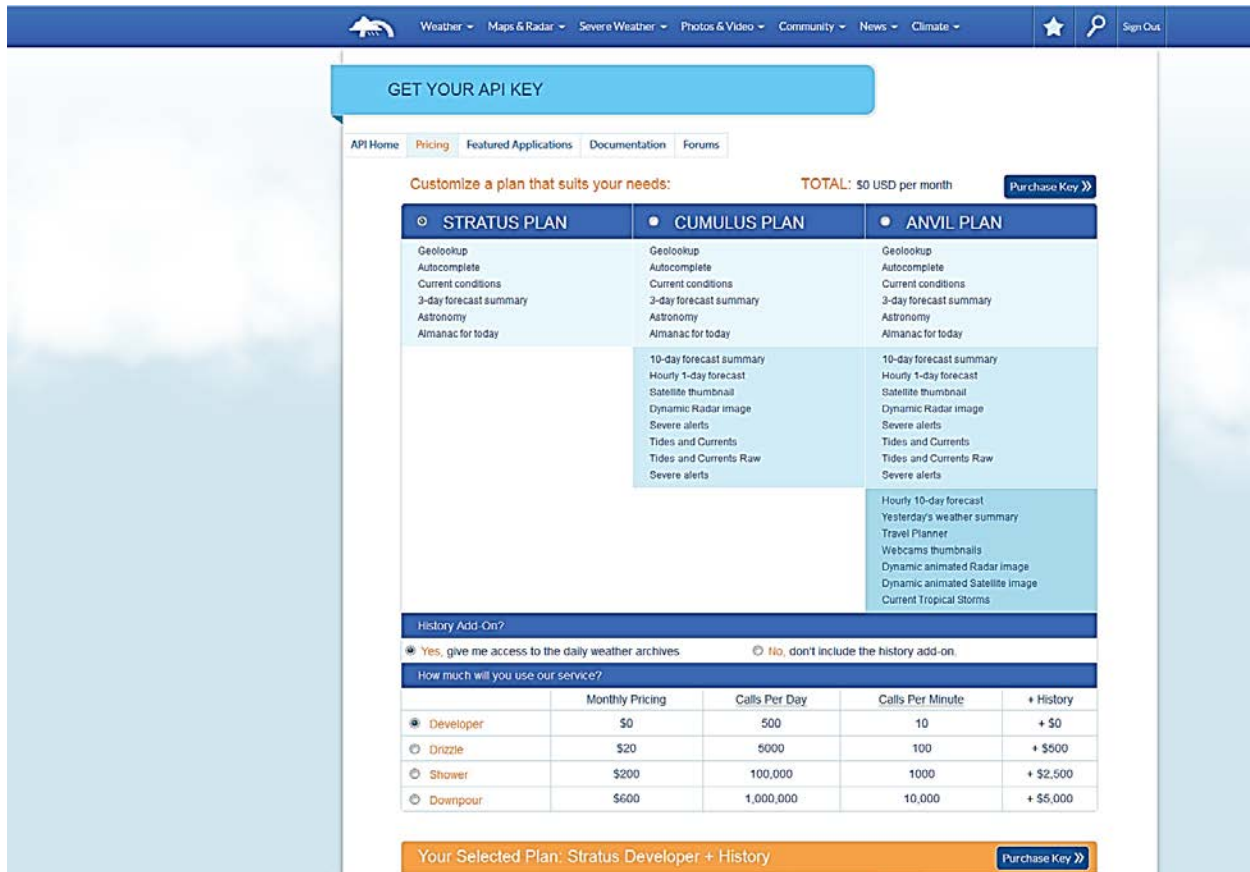

Figure 21: Creating a WeatherUnderground API Key
- Select a plan that meets your needs. Login to with your username and password and click on “Explore my options button.” For most applications, the free plan will be adequate. The window should appear similar to Figure 21: